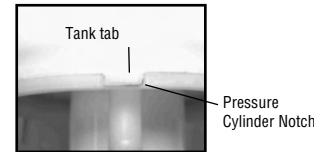

Figure 6
11. Reassemble backwards from step 6 thru 2, performing each step in reverse. Note: there is a notch/tab combination in the pressure cylinder/tank to be used for alignment (fig. 6).